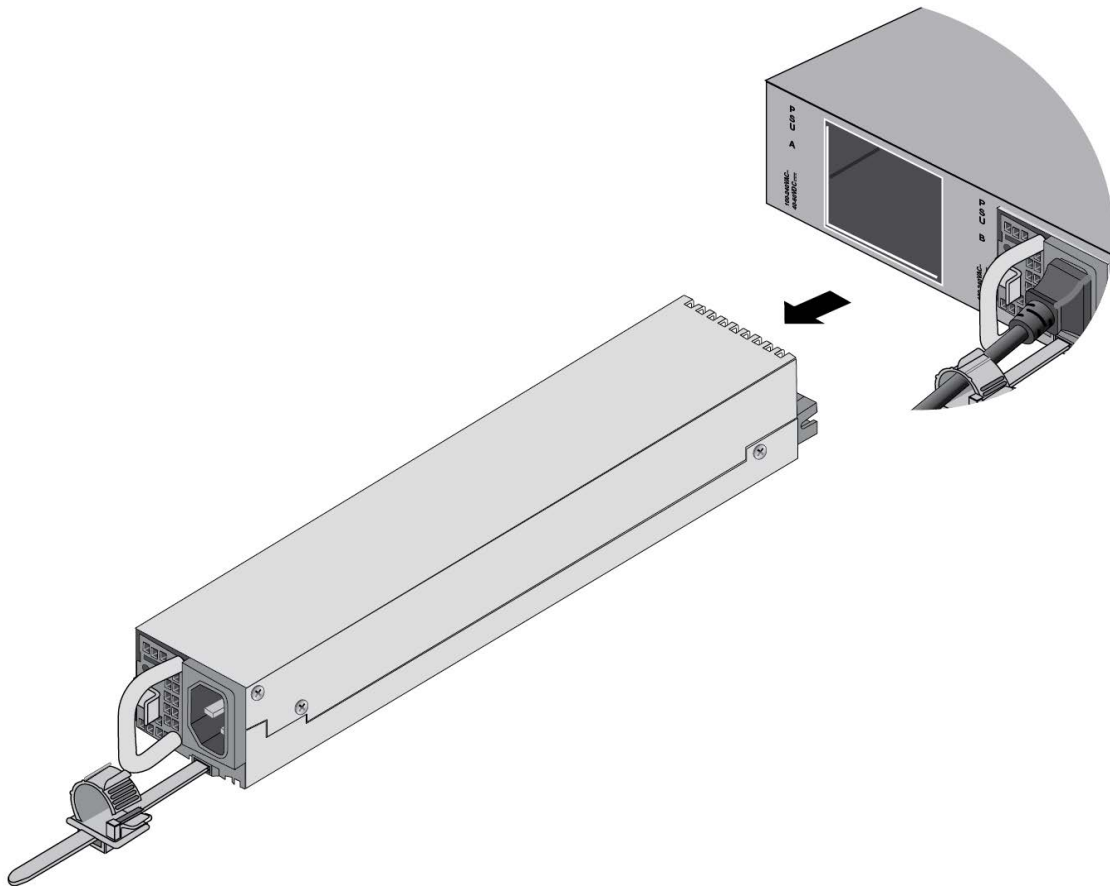

Figure 134. Removing a Power Supply
5. Carefully slide the power supply from the switch. Refer to Figure 134 on page 206.